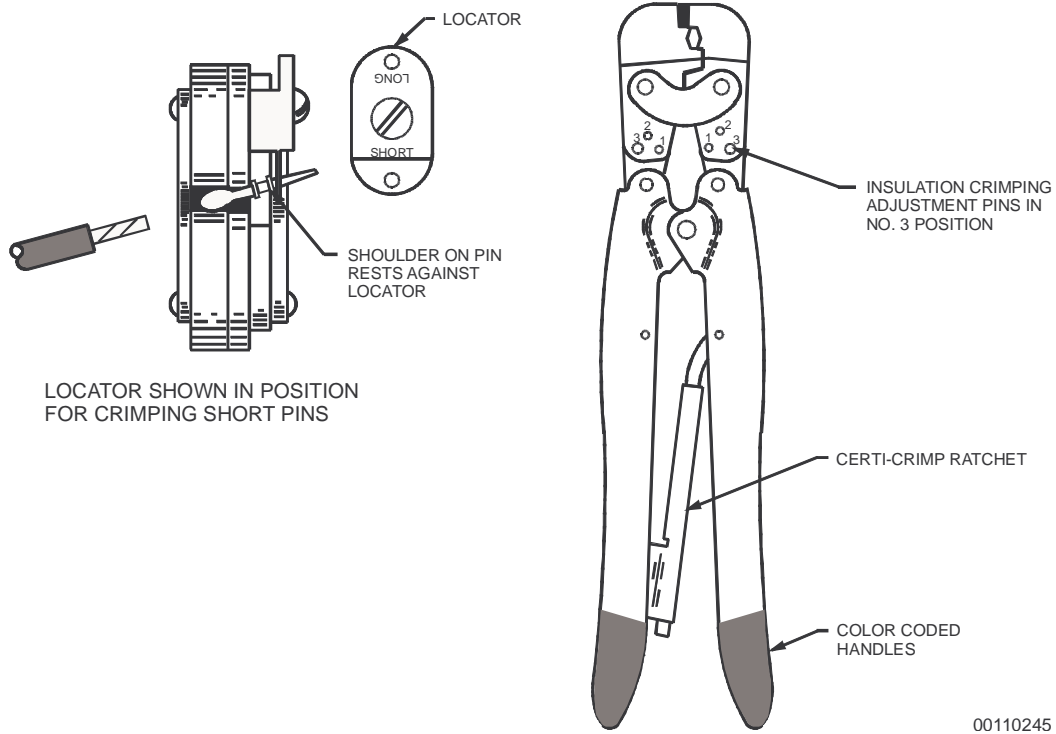

Figure 6 Hand Crimping Tool (AMP)
- a. Open the crimping jaws of the tool by squeezing the handles until the certi-crimp ratchet releases. (See Figure 6.)
- b. Place the taper pin in the dies so that the tip of the taper pin goes through the locator, and the shoulder rests against the locator as shown in Figure 6.